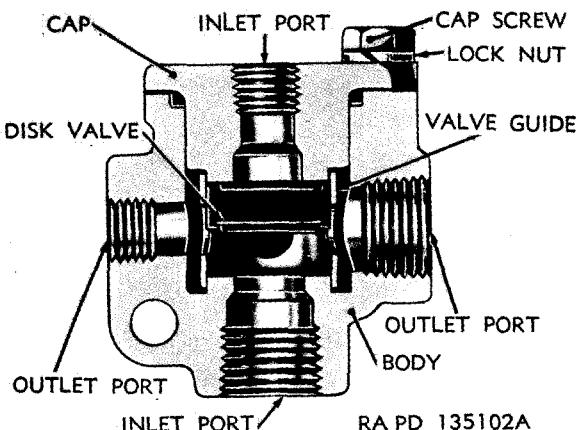

Figure 180. Sectional view—disk type double check valve.
b. *Disk Type* (fig. 180). Plug both outlets and test as in a above.